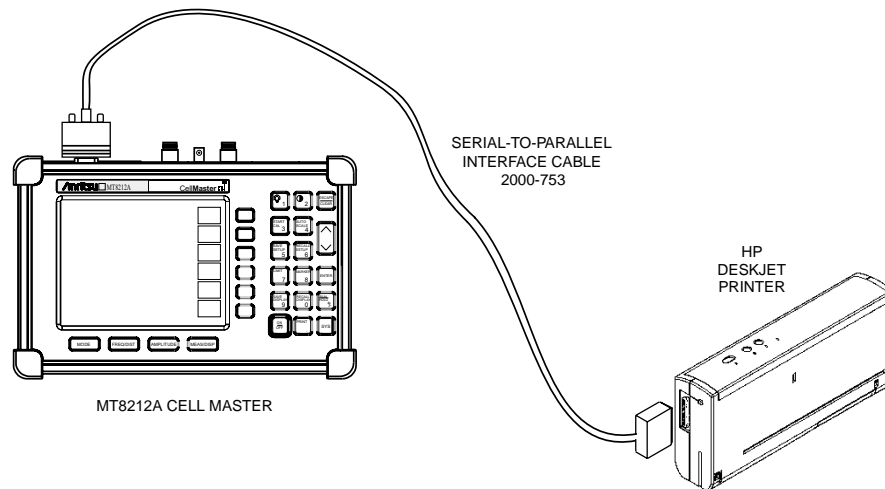

Figure 3-4-. Cell Master Printer Setup
Step 1. Connect the printer as shown in Figure 3-4.